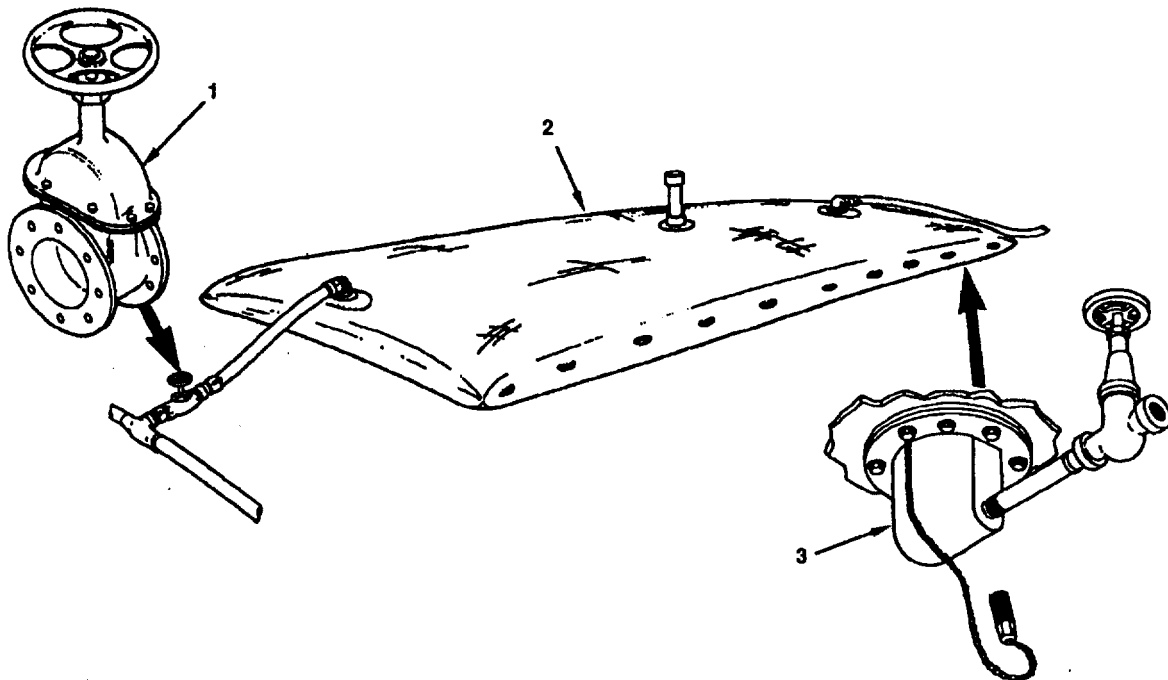
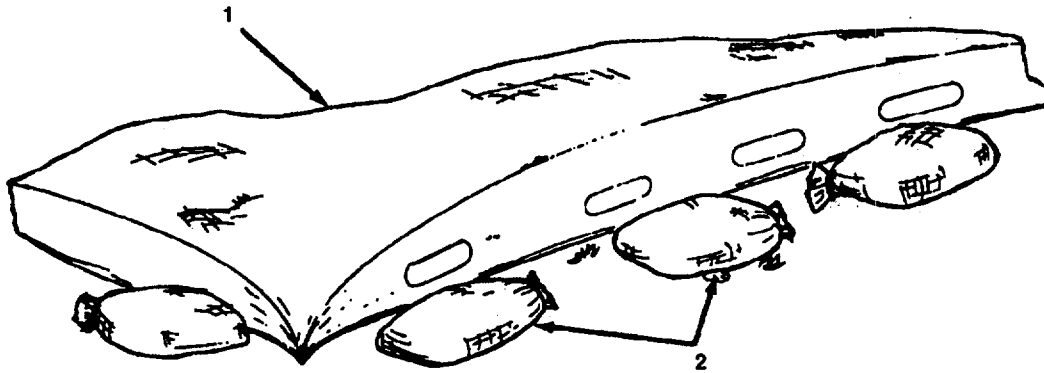

Figure 2-43. 20,000 Gallon Pillow Tank Fill-up.
Figure 2-44. Sandbag Installation.
- a. Open 4 inch gate valve (Figure 2-43, 1) to fill 20,000 gallon pillow tank (2). Check to see that drain valve (3) on 20,000 gallon pillow tank (2) is closed.
- b. If 20,000 gallon pillow tank (Figure 2-44, 1) rolls when being filled, place sandbags (2) along edge of 20,000 gallon pillow tank (1) to prevent further rolling.
- c. Whenever a 20,000 gallon pillow tank (1) is being filled, inform operators at downline pumping stations to expect reduction in hoseline pressure. The reduction in pressure can cause engines on downline stations to reduce speed. Whenever possible, do not fill 20,000 gallon pillow tank(s) (1) at a rate that causes downline pumping stations to reduce speed.
- d. When 20,000 gallon pillow tank is full, close 4 inch gate valve (Figure 2-43, 1).